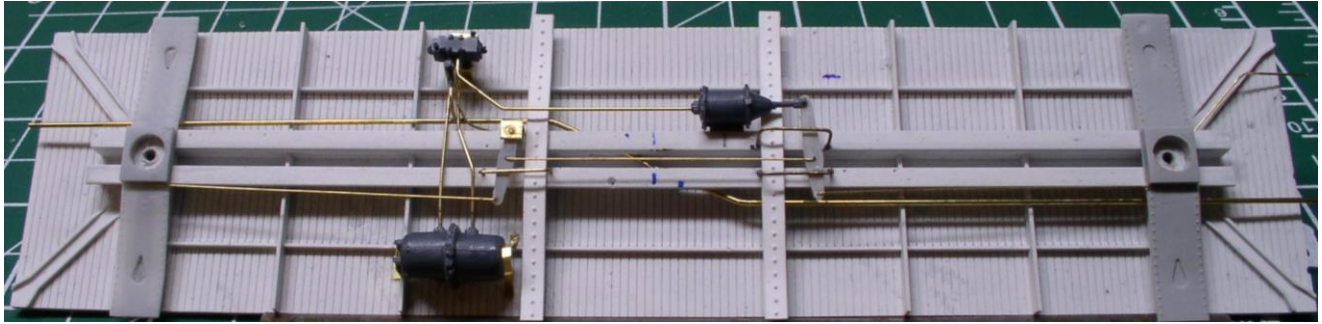

Figure U20
22. The rod that goes between the two brake levers is supposed to be 8' 10" long, however you may find that you need a little more or less. Bend the ends of a piece of the 0.012" to form this rod and glue in place. Next measure and cut two pieces of this rod to go from the levers to the bolster. Bend the ends and glue in place. See Figure U20.